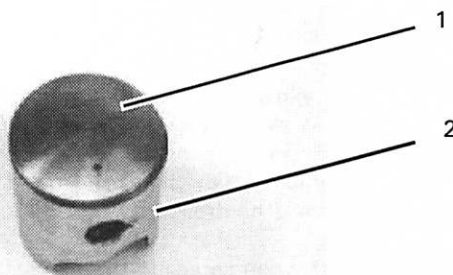

Figure 61
2. Remove all carbon residue from the piston crown (1, Figure 61).
4. Inspect the piston skirt (2, Figure 61) for cracks or other damage.